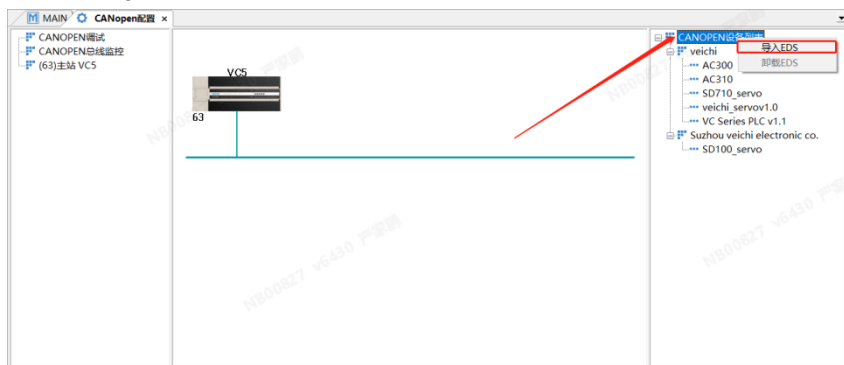

Figure 1-13 Importing EDS file
Step 5: Right-click the CANOPEN device list on the right side of the configuration interface and click Import EDS. The purpose of this step is to import the configuration file of EDS type matching the servo controller, as shown in Figure 1-13.